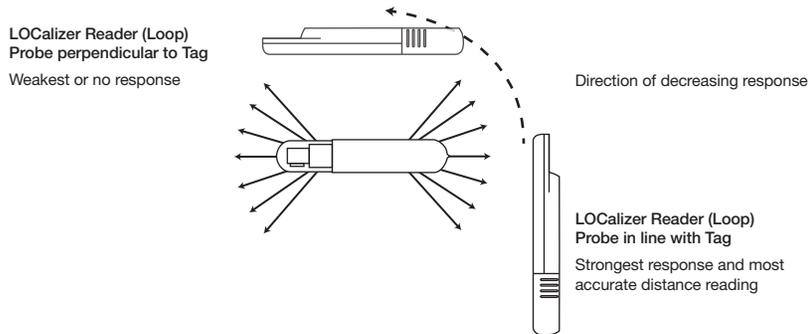

Figure 3. Assessing Tag location/position with Loop Probe using signal strength (not to scale)
* As measured from center of the Loop probe to end of Tag (Figure 3)
NOTE: The sound and distance display rise to a maximum when the Tag is in line with and directly under the sensing head surface (Figure 3). Identification of the Tag location can be refined by moving the Probe until both ends of the Tag are detected.